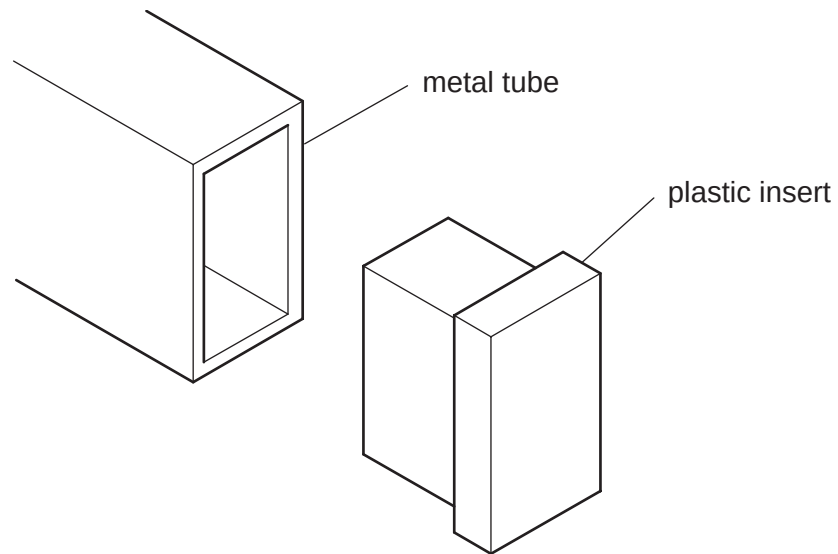

Fig. 14
- (d) Knock down (KD) fittings will be used at **A** to join the pieces of tube together.
- (e) The ends of the metal tube are to be sealed using plastic inserts as shown in Fig. 14.